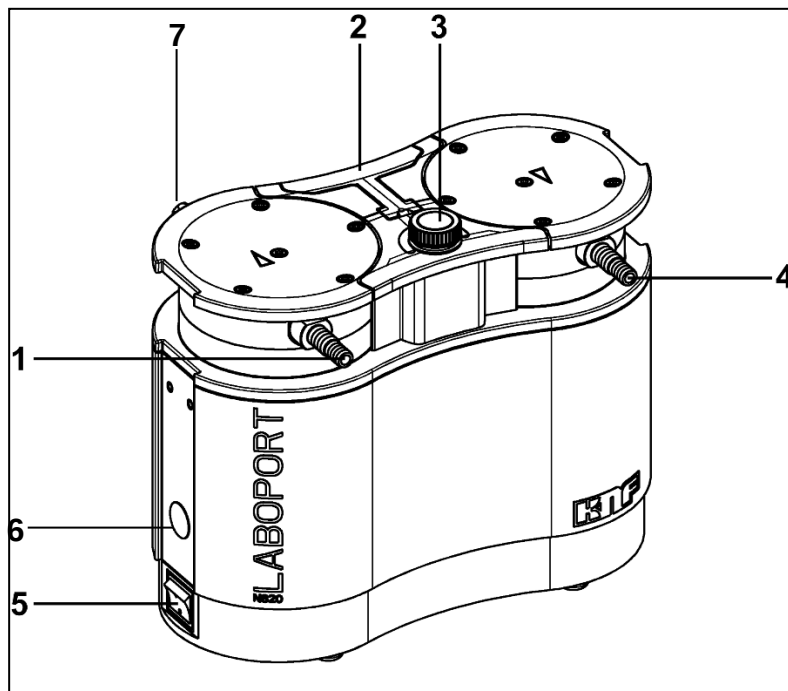

Fig. 2: Diaphragm pump (N 820G)
- ➔ Switch the pump on at the power switch (see Fig. 2/5).
- ➔ Switch the pump off with the rotary/push knob.(see Fig. 2/3)
- ➔ Switch the pump off at the power switch (see Fig. 2/5).
- ➔ Is green when the pump is switched on at the power switch. (see Fig. 2/5).
- ➔ Is blue when the pump is also switched on with the rotary/push knob. (see Fig. 2/3)